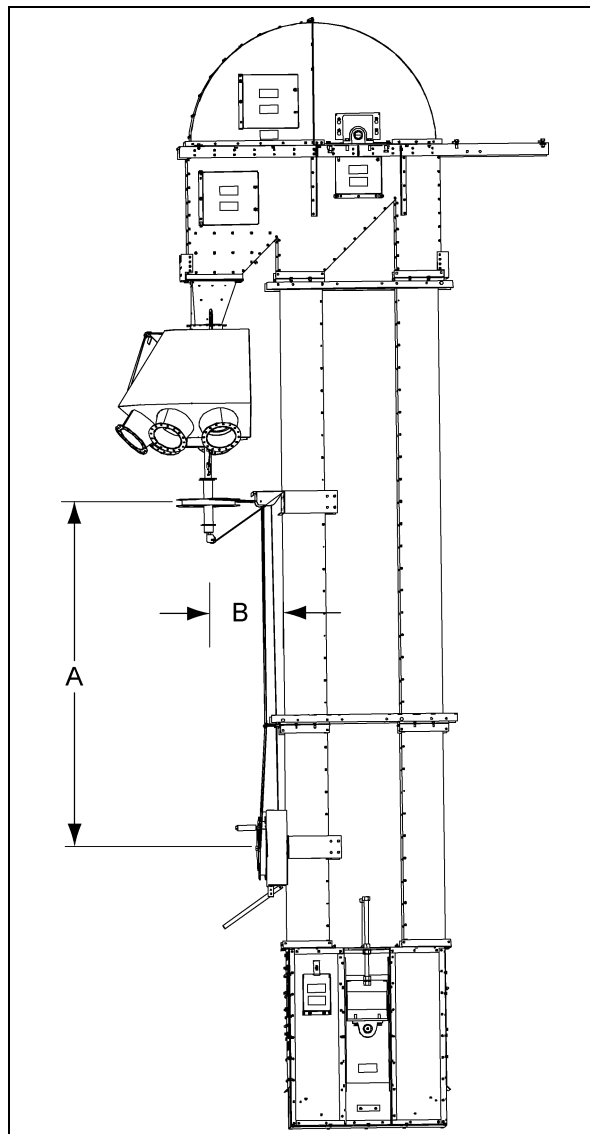

Figure 5H
This cable is used to turn the spout. It should be long enough to reach from the upper control wheel to the lower control wheel assembly. This can be determined by the vertical distance between the two (2) wheels and the horizontal distance from the side of the trunking to the **center** of the upper control wheel. (See Figure 5H for formula.) Multiply this distance x 2 to account for the distance up and back down. Add 26' to this distance to account for 2-1/2 wraps around the upper and lower control wheels. (Approximately 3'-9" per wrap plus an extra 2 wraps allowance for possible error. 7 Wraps total = 26'.)